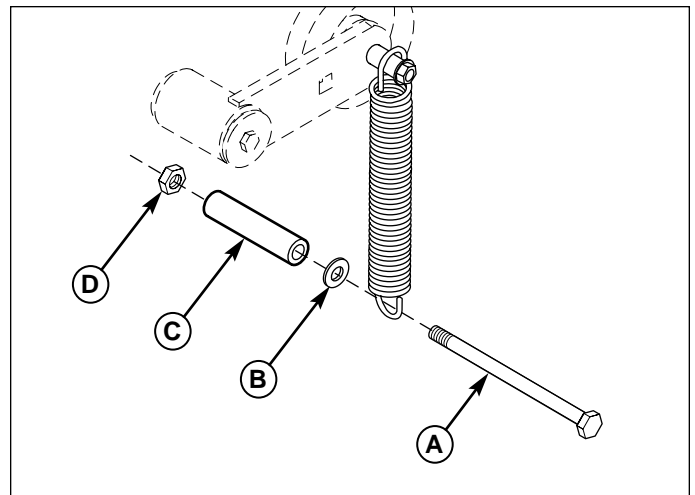

Figure 5. Spring Anchor Bolt Installation
3. Take the 1/2" X 5" bolt (A, Figure 5) and slide it through the open end on the pump belt idler pulley spring (see Figure 5).
4. Install the 1/2" washer, rubber hose and 1/2" jam nut (B, C & D, Figure 5) onto the 1/2" x 5" bolt. Tighten the jam nut against the shank of the bolt.
6. Using two hands, carefully pull down on the spring anchor bolt and guide the bolt through the new drilled hole in the pump plate. While forcing the bolt through the pump plate with one hand, secure the bolt with a 1/2" nylon lock nut. When tightening the bolt make sure that the nylon lock nut is being tightened while the bolt remains stationary. (See Figure 5)